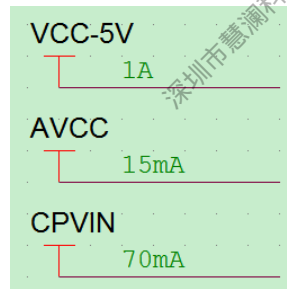

Figure 2-45 The Operating Voltage and Circuit of Audio Power
- Mark the operating voltage and the maximum operating current of AUDIO power in the schematic diagram to facilitate PCB layout design, as shown in Figure 2-45.